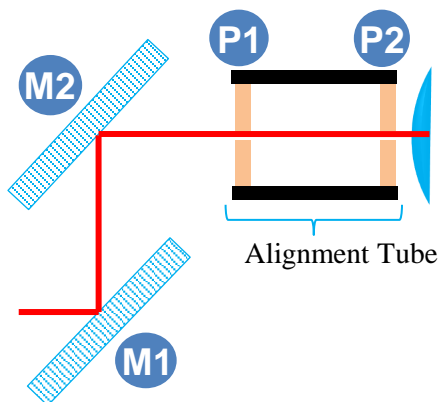

Figure 2-3: Alignment tube
- i. Make sure the beam reaches the first disk of the alignment tube. Use mirror M1 to target the center of the disk P1 (see **Figure 2-3**)
- o. In the *Advanced* tab, click on the *M²* button. Two (2) new tabs open and the translation stage automatically connects to the computer.
- q. Observe the beam in the *Display* screen and use mirror M2 (see **Figure 2-3: Alignment tube**) to center the beam on the sensor.